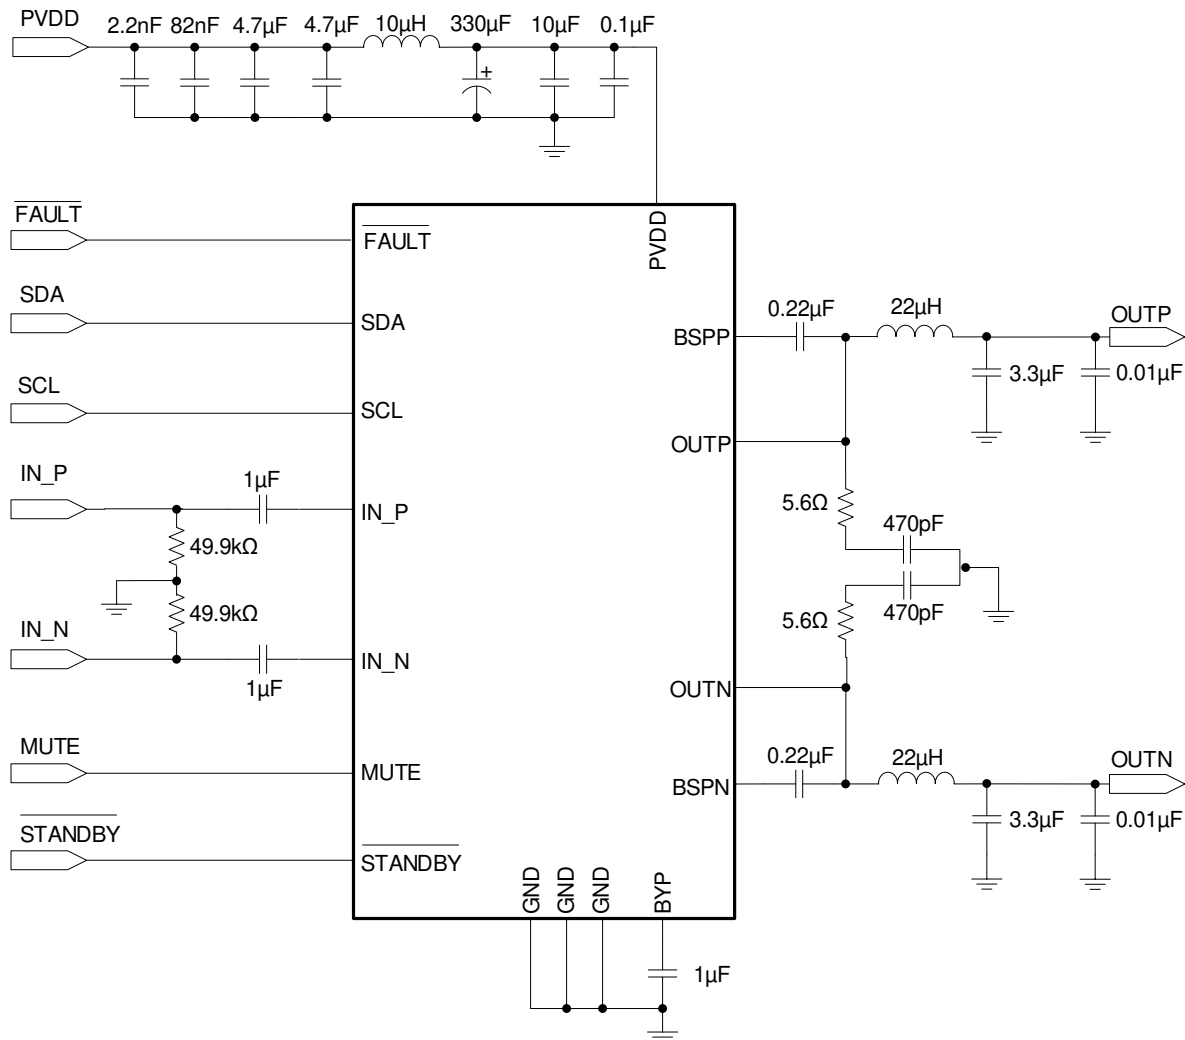

Figure 8-1. TAS5431-Q1 Typical Application Schematic
The output stage uses dual NMOS transistors; therefore, the circuit requires bootstrap capacitors for the high side of each output to turn on correctly. The required capacitor connection is from BSTN to OUTN and from BSTP to OUTP as shown in Figure 8-1.
- Step 1: Hardware Schematic Design: Using the Figure 8-1 as a guide, integrate the hardware into the system schematic.